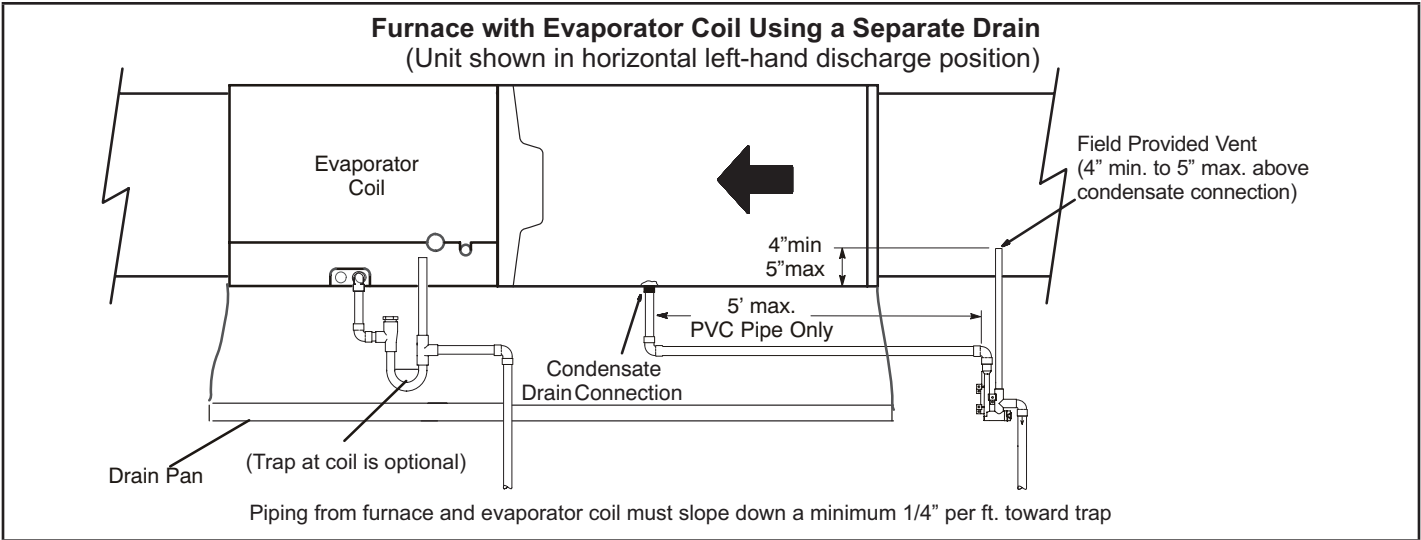

**FIGURE 50**
- 5 - FIGURE 50 and FIGURE 51 show the furnace and evaporator coil using a separate drain. If necessary the condensate line from the furnace and evaporator coil can drain together. See FIGURE 49, FIGURE 52( upflow furnace) and FIGURE 53.